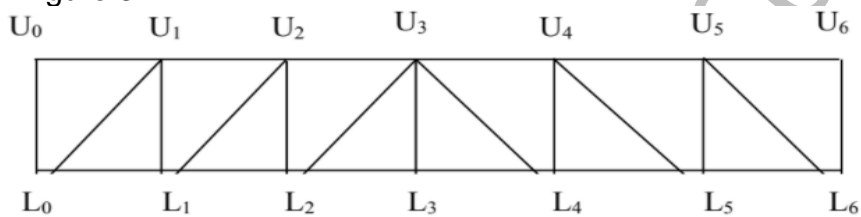

Figure 3
14. Draw the ILD for the members U_3U_4 , L_4U_3 , U_3L_3 and L_3L_4 of a Pratt truss shown in Figure 3.